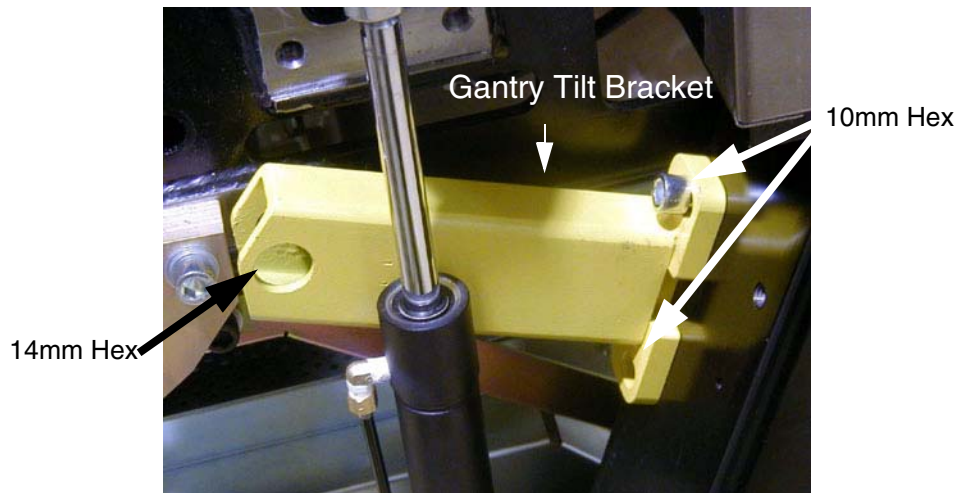

Figure 1-49 Gantry Tilt Bracket Removal
- 1.) Refer to Figure 1-49. Remove the gantry shipping bolts and brackets.